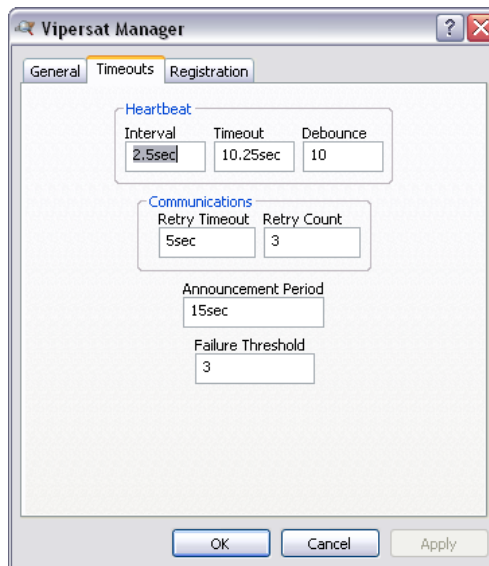

Figure 3-8 Vipersat Manager, Timeouts tab
10. Select the **Timeouts** tab shown in figure 3-8. The default timer settings are adjustable to accommodate communications that require additional time because of network congestion.